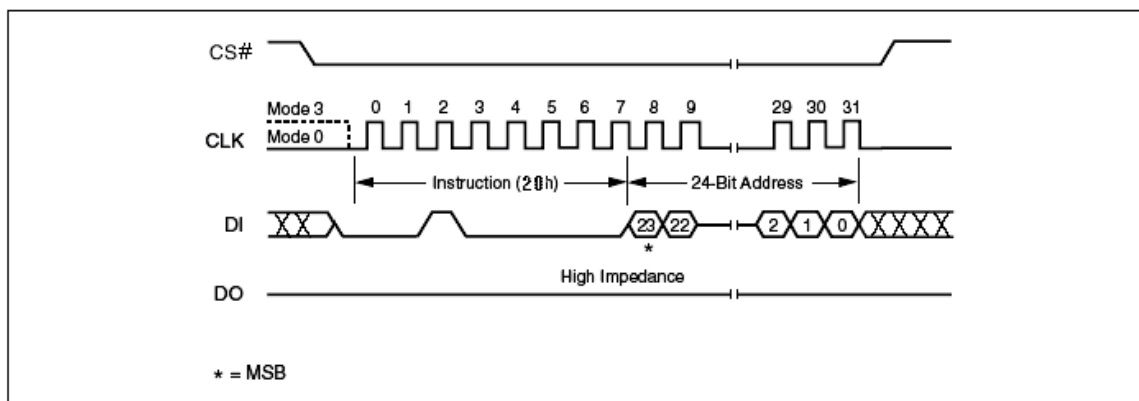

Figure 12. Sector Erase Instruction Sequence Diagram
The instruction sequence is shown in Figure 12. Chip Select (CS#) must be driven High after the eighth bit of the last address byte has been latched in, otherwise the Sector Erase (SE) instruction is not executed. As soon as Chip Select (CS#) is driven High, the self-timed Sector Erase cycle (whose duration is t_{SE}) is initiated. While the Sector Erase cycle is in progress, the Status Register may be read to check the value of the Write In Progress (WIP) bit. The Write In Progress (WIP) bit is 1 during the self-timed Sector Erase cycle, and is 0 when it is completed. At some unspecified time before the cycle is completed, the Write Enable Latch (WEL) bit is reset.